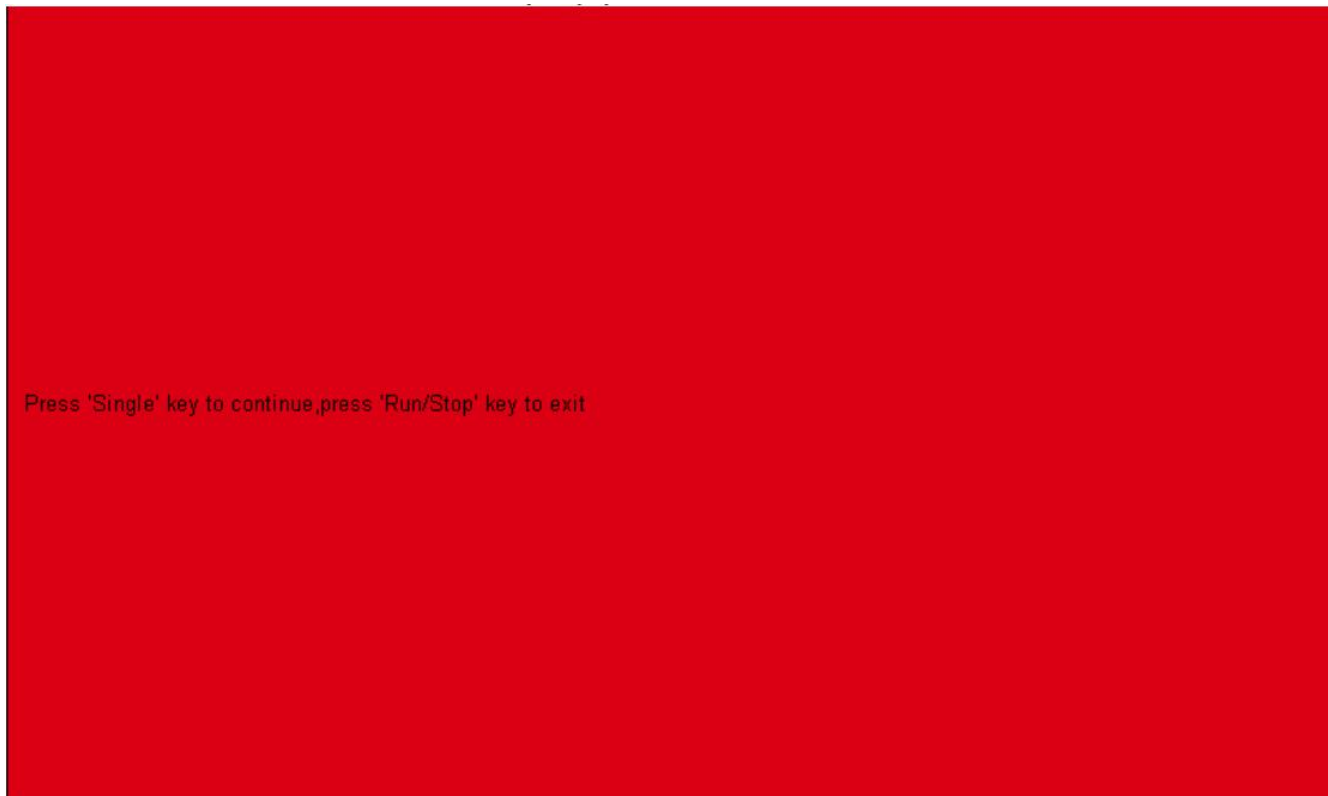

Figure 14.5 Screen Test
5. Press the **Screen Test** softkey to enter the screen test interface, as shown in figure 14.5